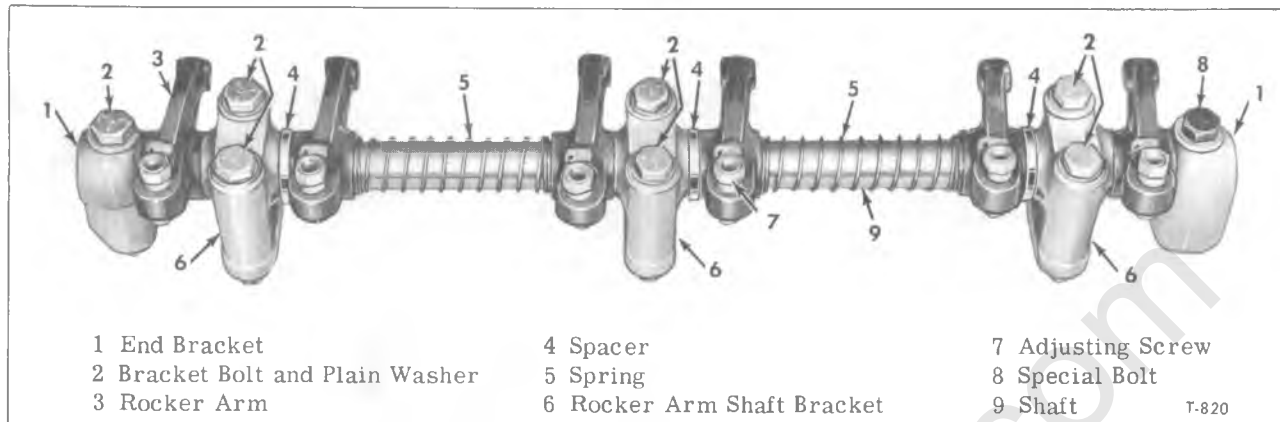

Figure 9—Rocker Arms, Shaft, and Brackets
1. Place all push rods in original locations, then referring to figure 9, bolt rocker arm shaft brackets in place, meanwhile being careful to engage rocker arm screws with sockets in push rods. Tighten bracket bolts 20 to 25 foot-pounds torque.